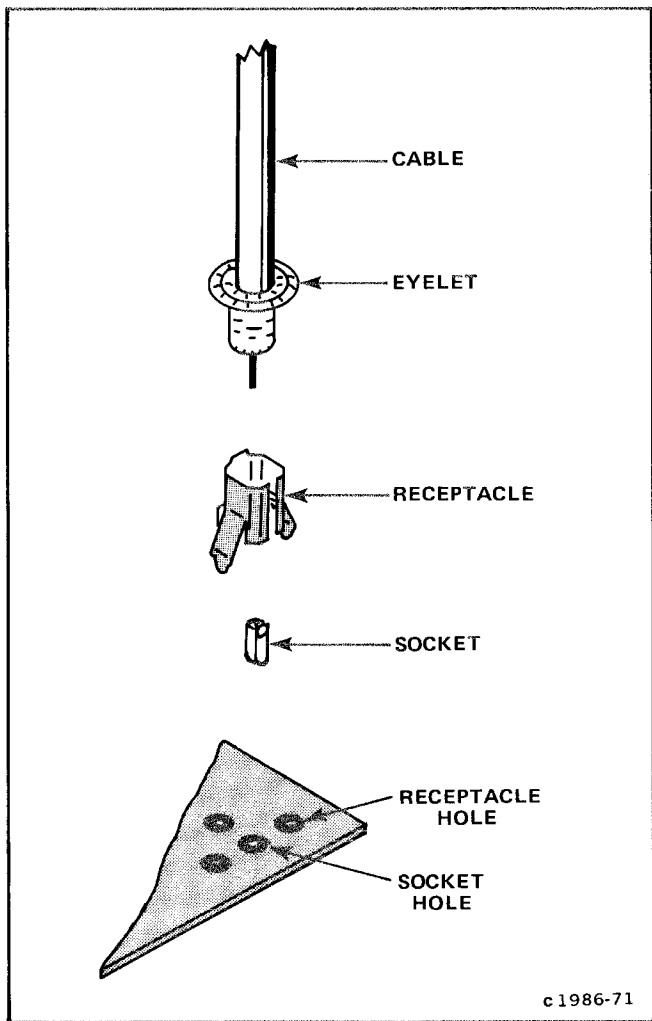

Figure 4-8. Coaxial end-lead connector assembly.
4. Note wire color on single-conductor shielded cables (see Fig. 4-8 for identification) and connector to which each is attached.
Three methods of interconnection are used to connect the circuit boards with other boards and components. When the interconnection is made with a coaxial cable, a special end-lead connector plugs into a socket on the board (Fig. 4-8). When the interconnection is made with a wire lead, an end-lead connector is used which mates with the interconnecting pin soldered into the board (Fig. 4-4). When the interconnection is made between adjacent boards, an inter-board multi-pin connector is used (Fig. 4-3). The following information provides the removal and replacement procedure for the various types of interconnection methods.